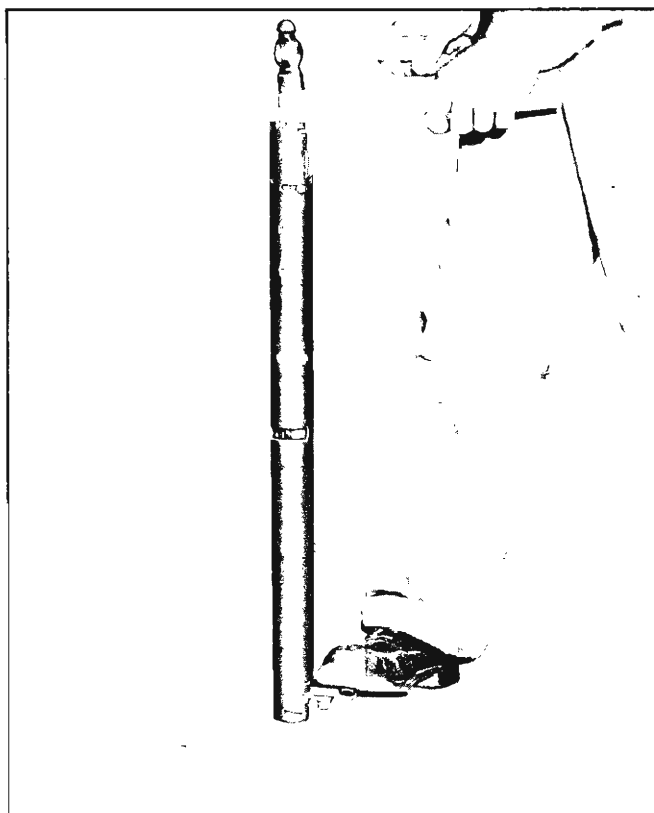

Fig. 13—Removing Shifter Tube
- c. Place mast jacket upright on floor while supporting it with 2 pieces of wood. Push down on second and third shift lever with foot and place block of wood on upper end of tube. Tap on block of wood to remove tube (fig. 13). Withdraw tube from lower end of mast jacket.